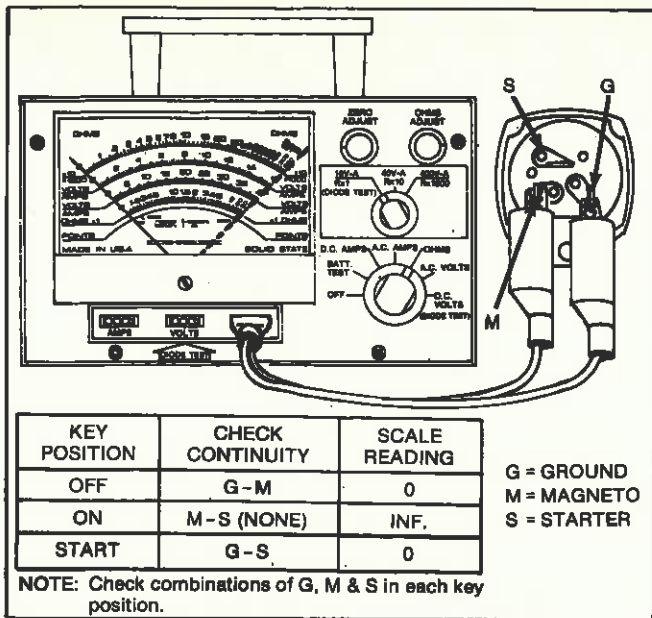

Fig. 53 — Starter Key Switch
- C. Faulty starter switch (open circuit). See Fig. 53.
Test key switch as noted in Fig. 53. Replace switch if not as shown under column, "Check Continuity."